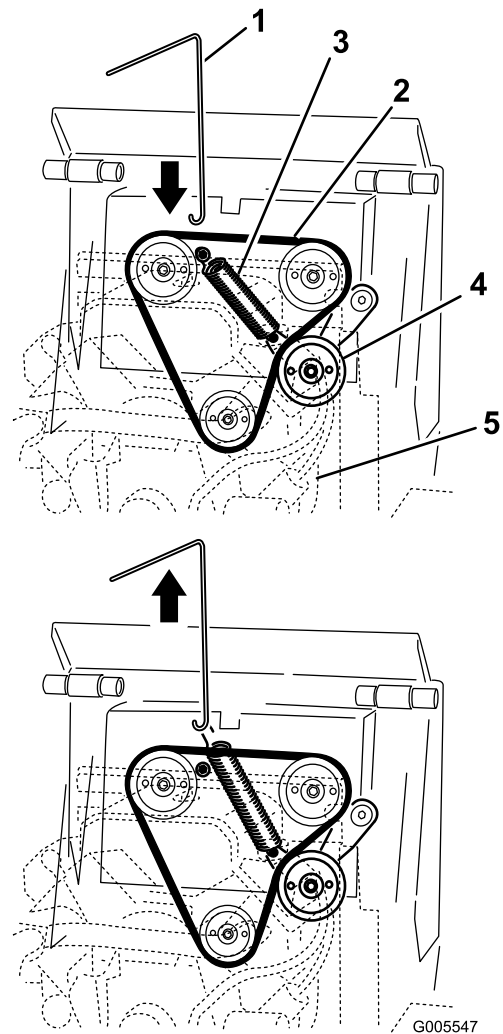

Figure 46
3. Connect the hook on the spring removal tool to the hook on the idler pulley spring, and disconnect the spring from the stud as illustrated in Figure 46.